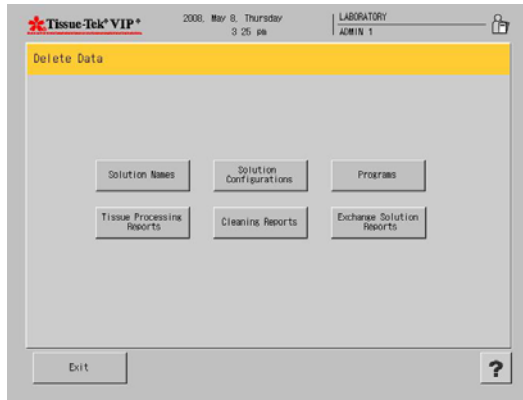

Figure 3-LLL
- The Delete Data screen displays (Figure 3-LLL).